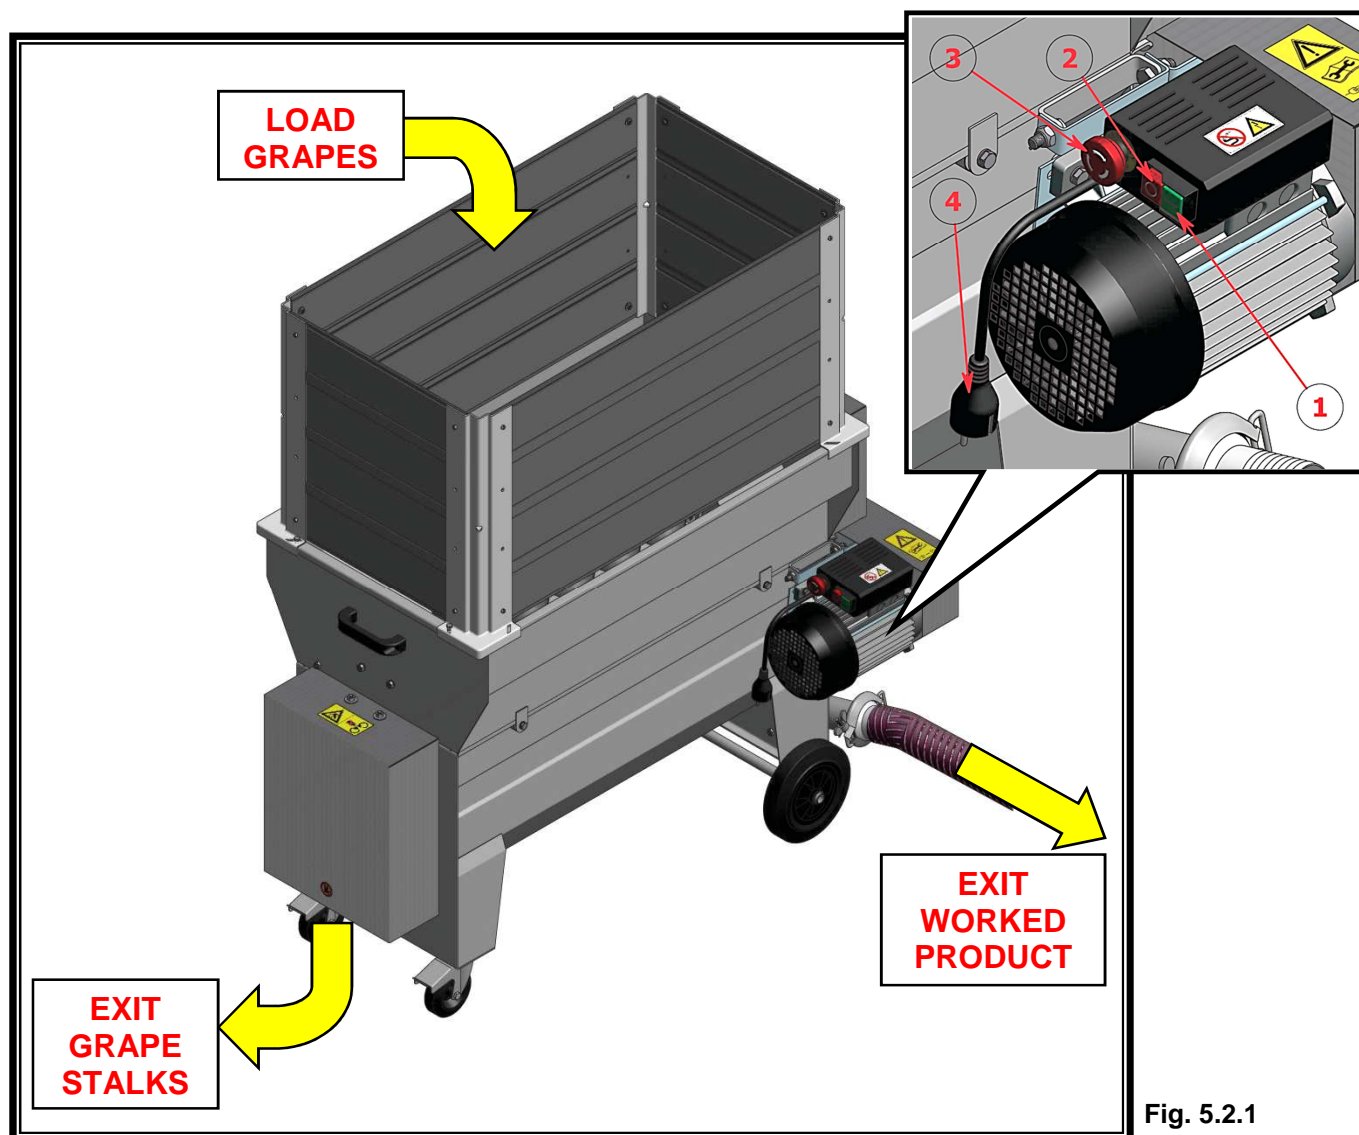

Fig. 5.2.1
To start up the machine, carry out the following operations (see fig. 5.2.1):
- 3) the stems spill into the back part of the machine, and the crushed product into the lower part (see fig. 5.2.1).
- 2) turn off the machine by pressing the stop button no.2 or the emergency button no.3 of fig.5.2.1;
- 3) disconnect the power supply plug no.4 of fig.5.2.1.